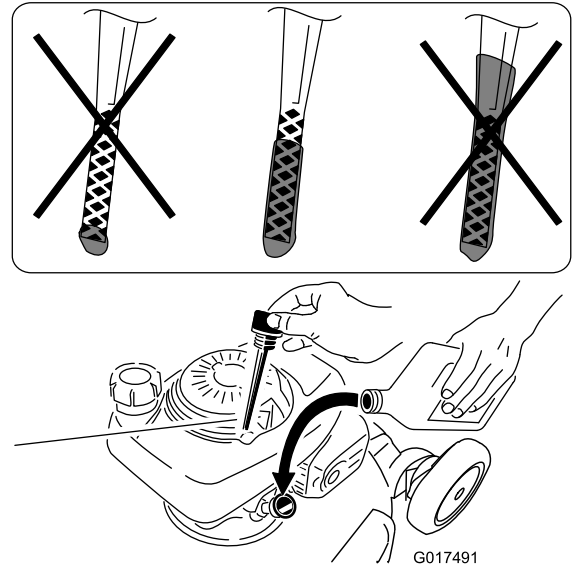

Figure 10
1. Remove the dipstick, wipe it clean, and fully install the dipstick (Figure 10).
2. Remove the dipstick and check the oil level (Figure 10). If the oil level is below the **Add** mark on the dipstick, **slowly** pour oil into the oil fill tube to raise the oil level to the **Full** mark on the dipstick. Wait 3 minutes after adding oil to check the oil level with the dipstick. **Do not overfill.** (Max. fill: 0.58 quart or 18.6 oz. (0.55 l), type: SAE 30 detergent oil with an API service classification of SF, SG, SH, SJ, SL, or higher.)